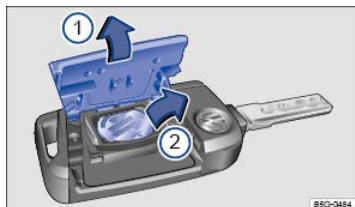

Fig. 27 Remote control vehicle key: Opening the battery compartment cover and removing the old battery.
The battery is on the back of the remote control vehicle key under a cover *⇒ Fig. 27①*.
- Remove the cover on the back of the remote control vehicle key *⇒ Fig. 27①* in the direction of the arrow using a suitable object such as a coin *⇒ ①*.
- Use a thin object to pry the battery out of the battery compartment *⇒ Fig. 27②*.
- Position the new battery in as shown and press it into the battery compartment (opposite direction of the arrow) *⇒ ①*.